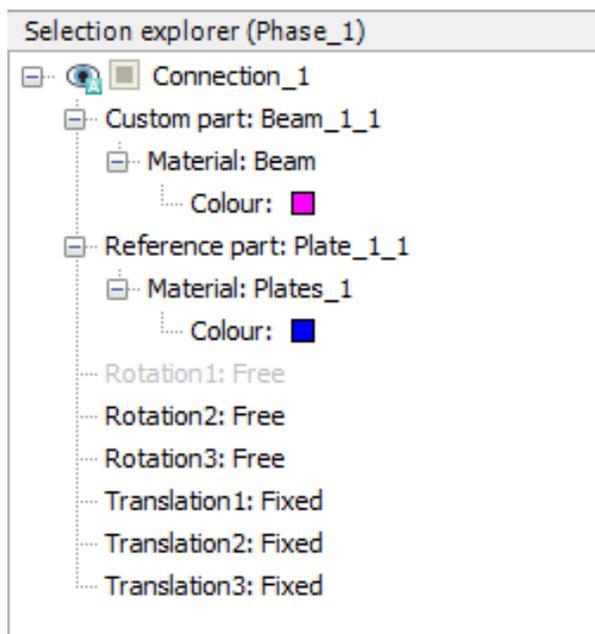

Figure 247: Connections subtree displaying a plate-beam connection
- Right click the model and select the *Create custom connection* option from the appearing menu. The newly created connection is indicated by a yellow point in the model. The local axes of the connections are displayed if the *Show local axes* option is selected in the *Options* menu. A new connection is listed in the *Connections* subtree of the *Model explorer* (Figure 247: Connections subtree displaying a plate-beam connection (on page 375)).